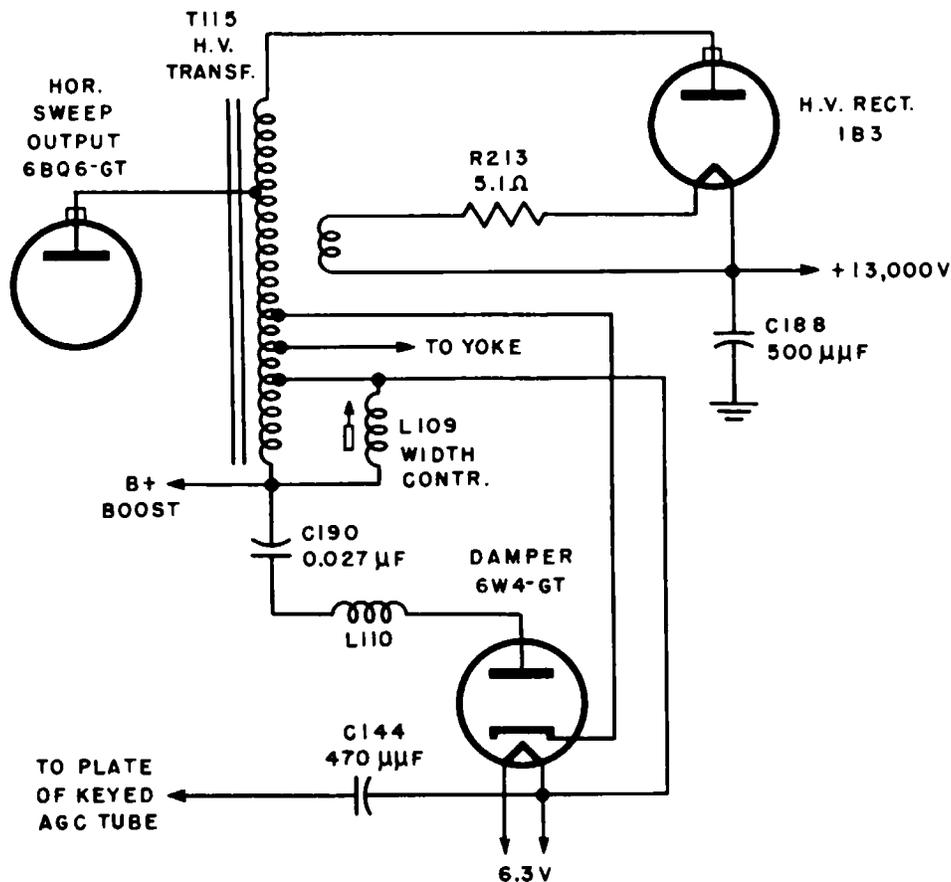

Fig. 5-7. Partial schematic of a horizontal section. After RCA Service Co.
**QUES. 5-7.** After the receiver has been operating normally for a period of time, the picture contrast increases, and the horizontal stability becomes poor. The horizontal deflection and agc tubes are checked and found to be good. In the receiver of Fig. 5-7, what is the probable cause of trouble?